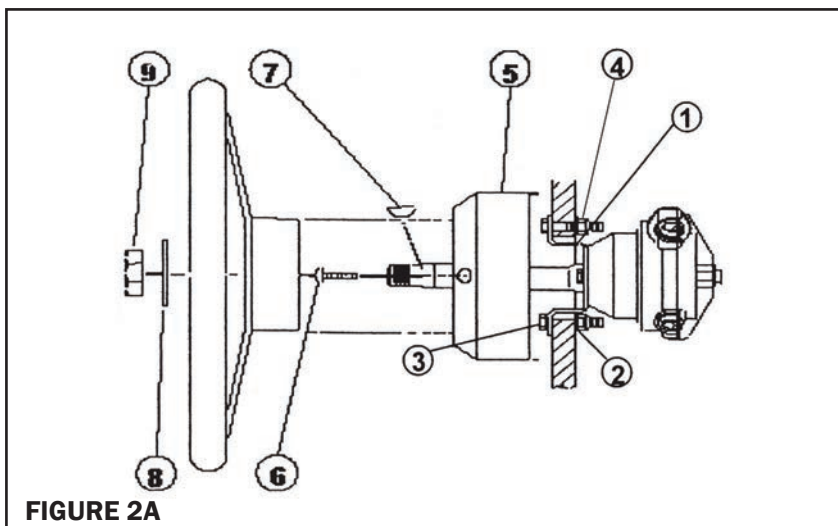

FIGURE 2A
Refer to Figure 2A below. Remove the wheel's center cap by prying it off with a screw driver. Save this cap for later use. With the cap off, unscrew and remove the 1/2" nut (item 9) from the end of the helm shaft. Also remove the washer (item 8). Withdraw the wheel from the shaft. (Use a gear puller to facilitate removal if the taper fit between the wheel and shaft is tight). After the wheel is off, remove the Key (item 7). Save the wheel and discard the other parts.
Refer to Figure 2A. Locate the two holes—approximately 3/8" diameter—on the beveled edge of the top face of the plastic bezel (item 5). This is where the two Phillips-head screws (item 6) are used to attach the bezel to the dash. Unscrew, remove bezel, and discard.